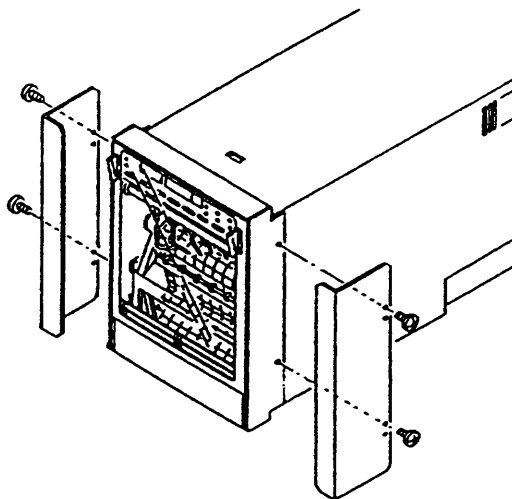

Figure 1.2
- (1) Remove the protection brackets on both sides of the front door (as shown below), by unscrewing 4 pcs. of screws (See Figure 1.2).